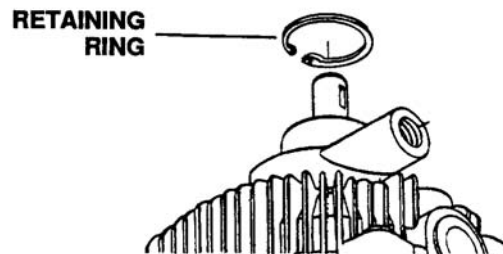

Figure 6-131. Installing Large Retaining Ring
- On charge pumps with ball bearings, install the large retaining ring. See Figure 6-131.